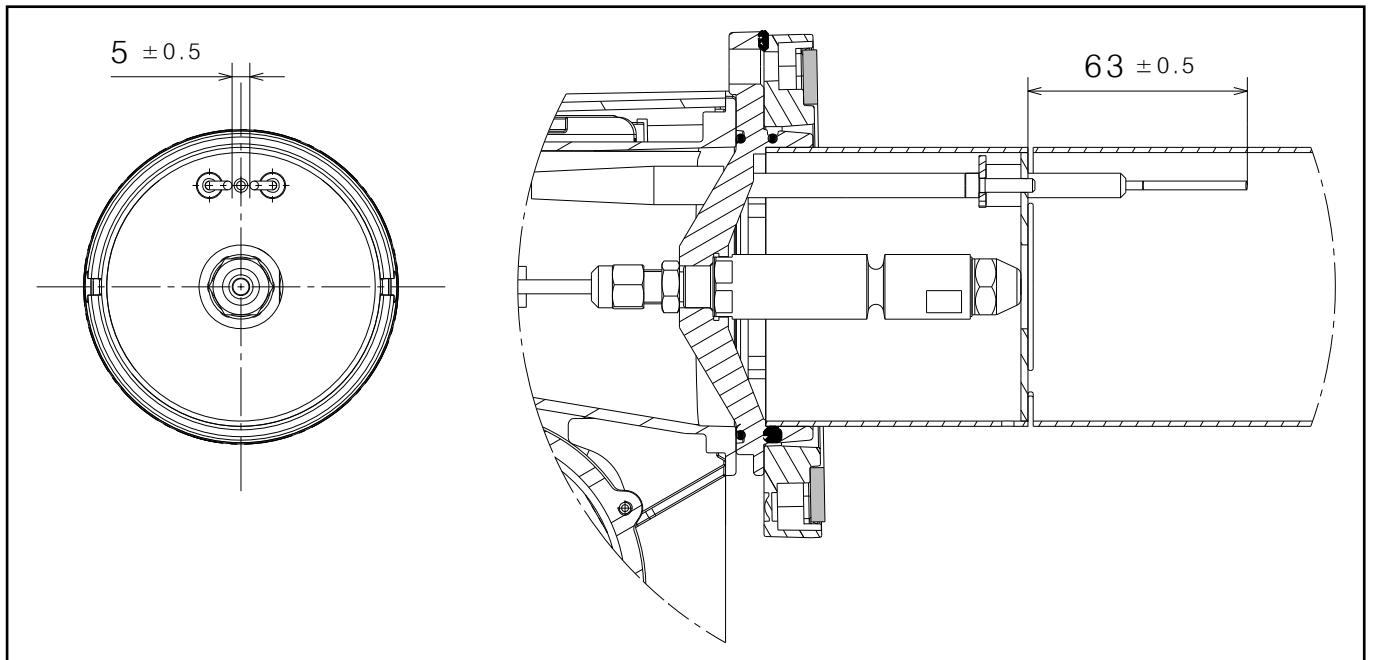

Figure 15-7: Ignition electrodes
5. To adjust the electrodes: Loosen the electrode clamp screw and move the electrode unit to achieve the gap 'in Figure 15-7, tighten the screw.
11. Always check the electrode settings after replacing the nozzle, see Figure 15-7.